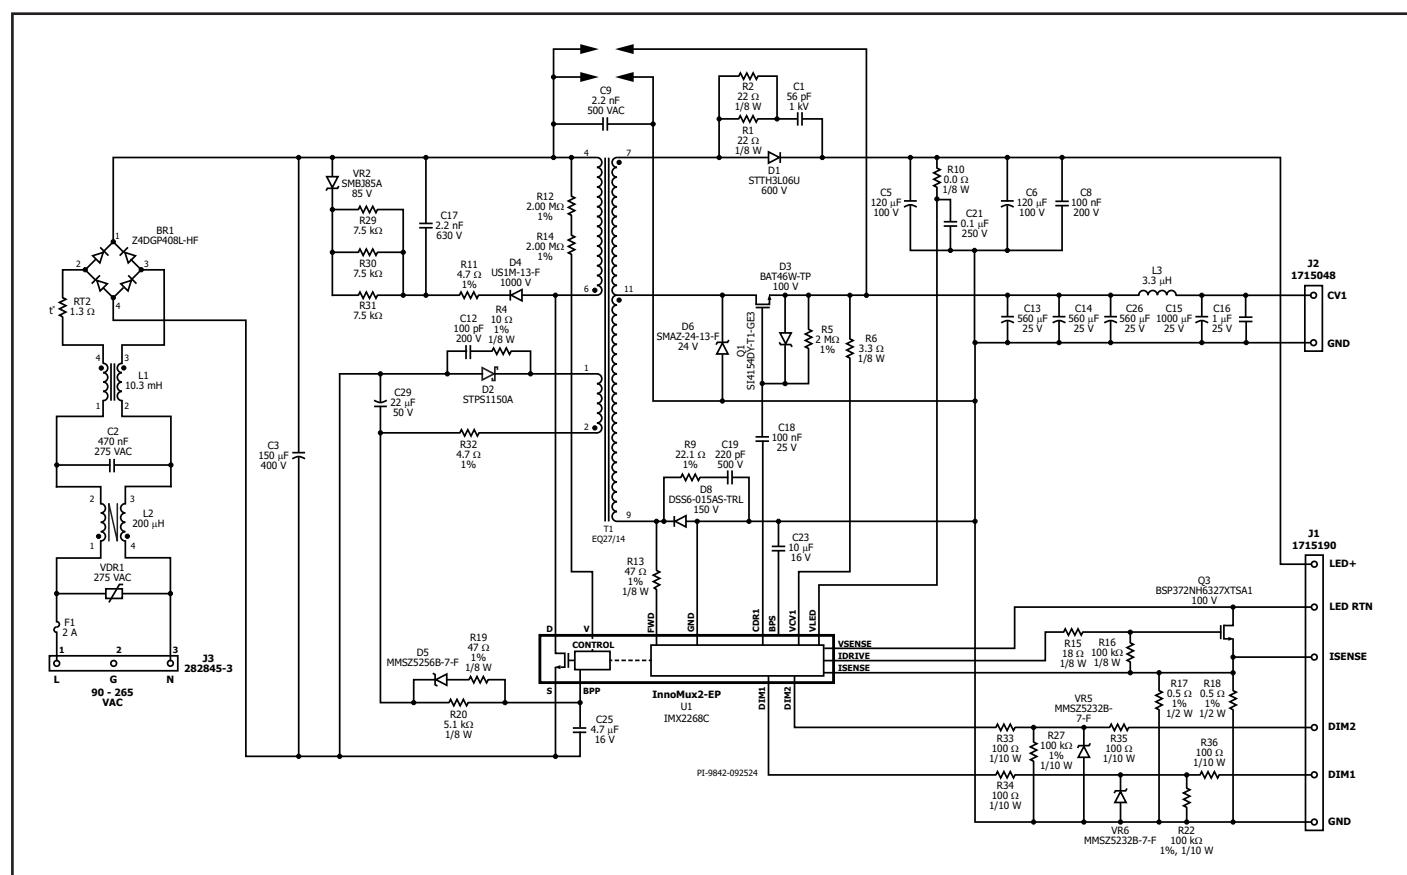

Figure 1. Application Example Schematic (1 CV + 1 CC).
The circuit in Figure 1 illustrates a single-stage, multi-output flyback converter with one constant voltage (CV) and one constant current (CC) output. This configuration is suitable for applications requiring display functionality. The InnoMux-2 architecture enables high-efficiency by eliminating downstream DC-DC converters, while independently and accurately regulating both CV and CC outputs. High output accuracy is achieved by controlling the selection MOSFET (Q1) on the CV1 output to direct power only to the output which requests it. The CC output supports various 2-pin dimming modes, including straight PWM dimming, analog/hybrid dimming and filtered PWM/hybrid dimming.
As shown in Figure 1, SR drain-source voltage is sensed via the FWD pin of InnoMux-2. To ensure optimal performance and prevent early turn-off of the SR MOSFET, FWD voltage regulation control is implemented. This feature not only improves noise immunity on the FWD pin but also allows designers to select an SR MOSFET with a lower $R_{DS(ON)}$, improving power efficiency.